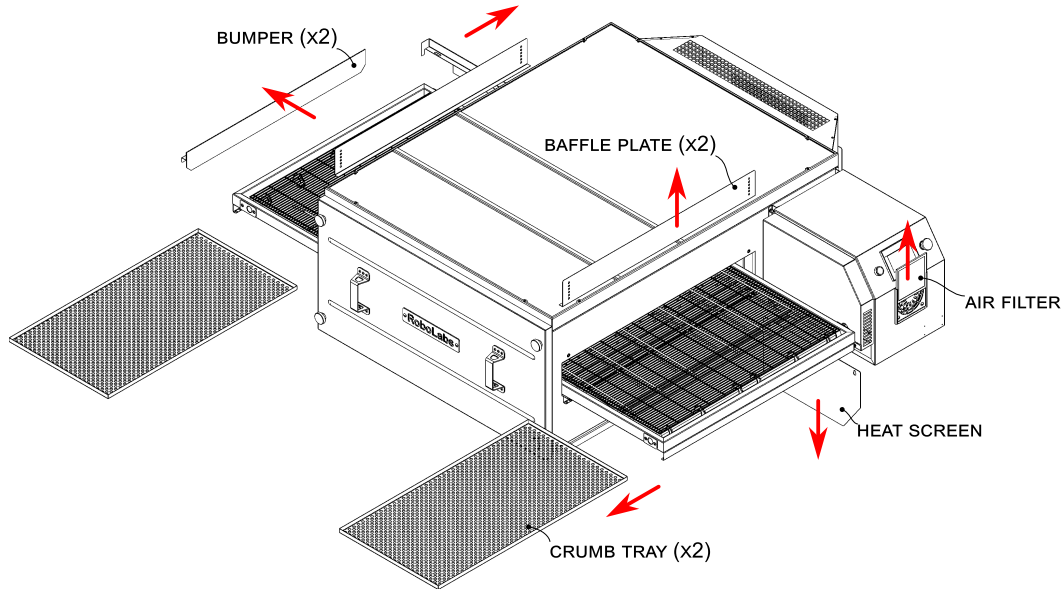

Figure 8
1. Remove **air filter, heat screen, crumb trays, bumpers, and baffle plates**, see Fig. 8.